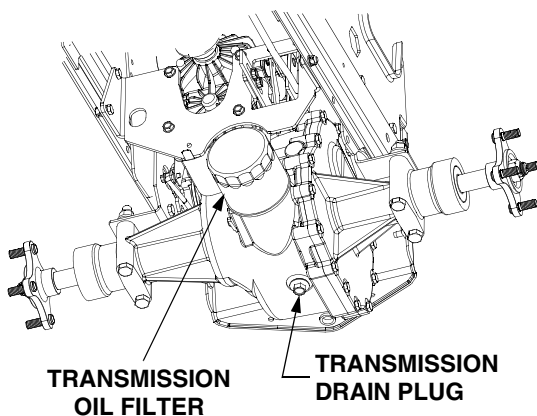

Figure 23
2. Clean the area around the transmission drain plug to prevent debris from entering the transmission case. Remove the drain plug and allow the transmission oil to drain into a clean container having a capacity of more than 6 quarts. Reinstall the drain plug (See Figure 23).
3. Clean around the base of the transmission oil filter and remove the filter by turning it counterclockwise (Refer to Figure 23).